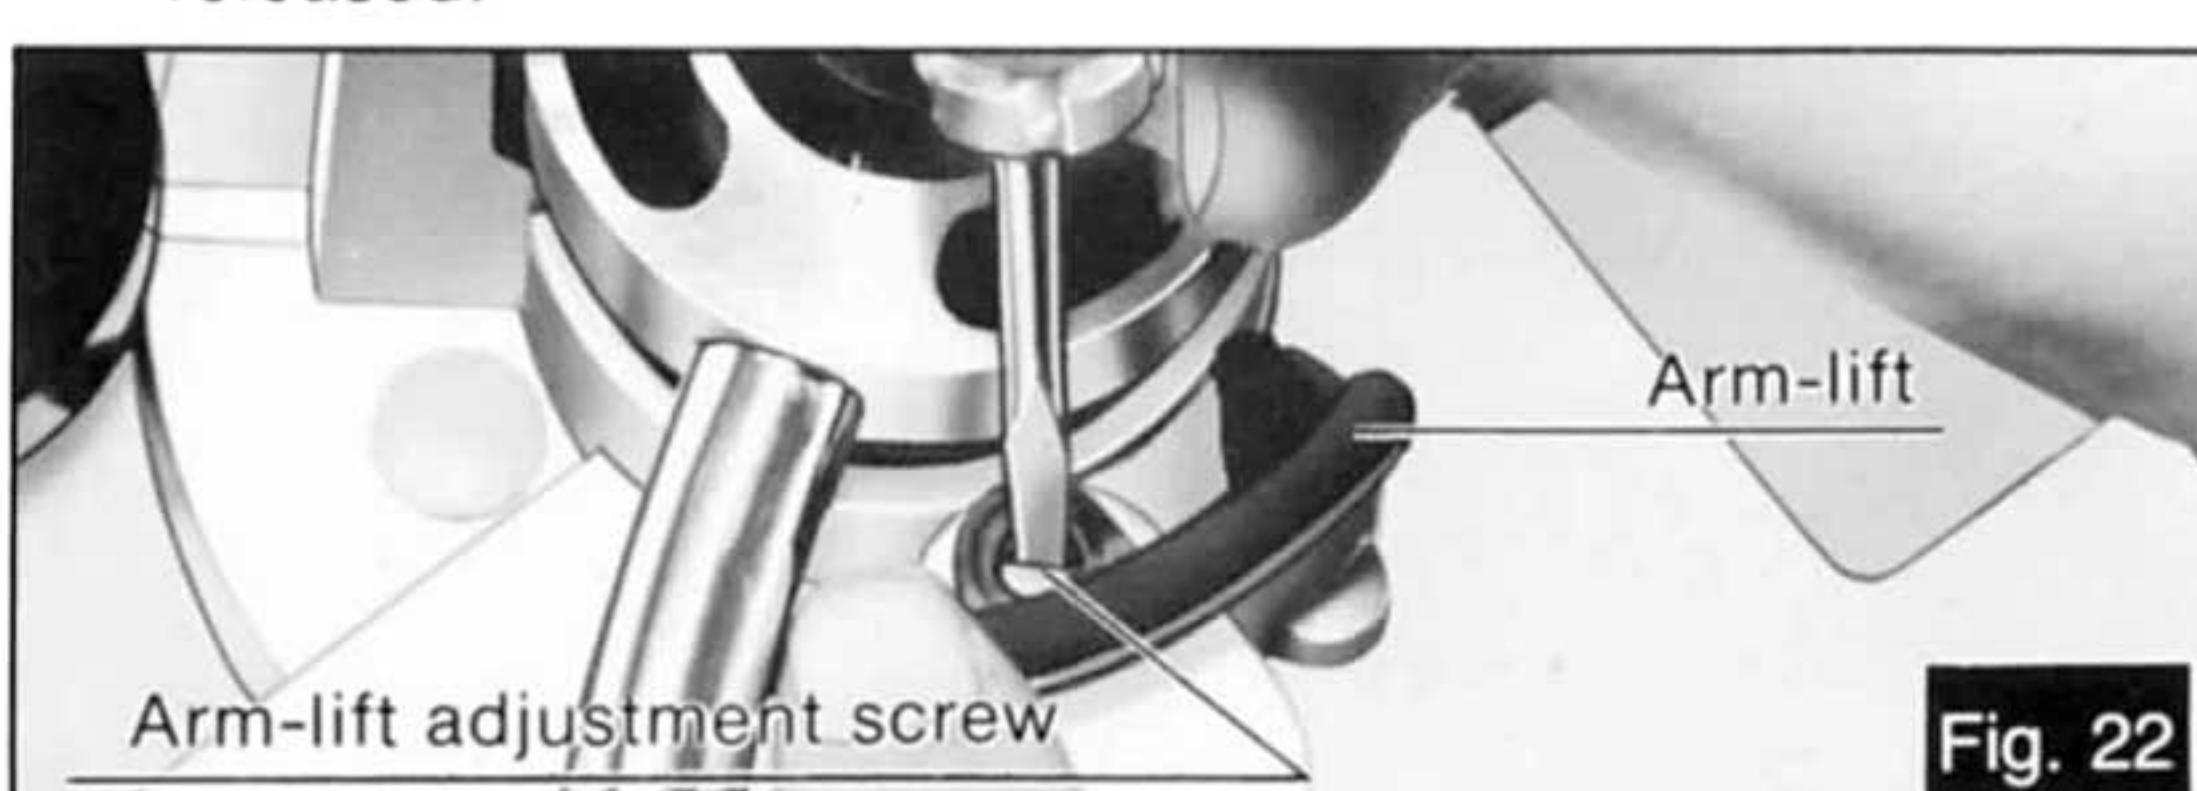

Fig. 22
- Turn the adjustment screw clockwise or counterclockwise, while pushing the arm lift down. (See Fig. 22.)